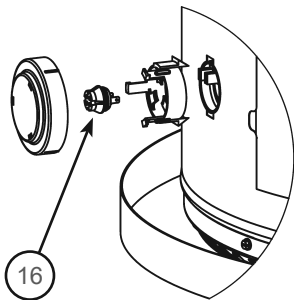

Figure 53.
- 16 Flammable Vapor Sensor (under cover) (see Figure 5) (see also Figure 53)